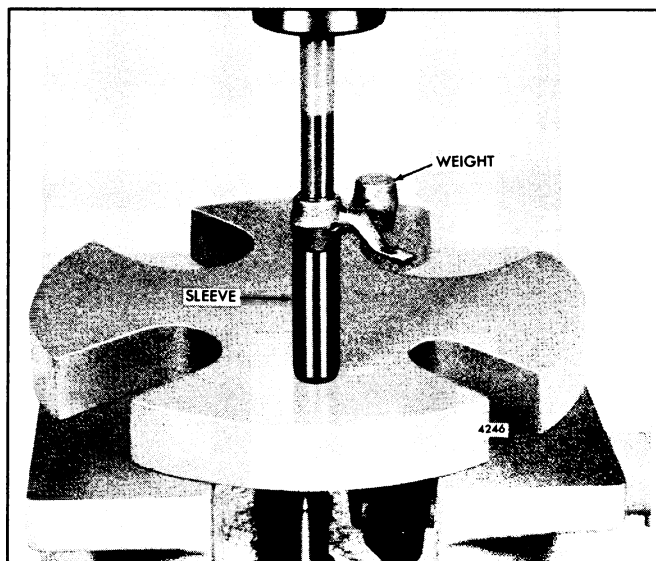

Fig. 11 - Removing or Installing Governor Weight Bearings using Tool J 8985
- c. Place the governor weight on the bed of an arbor press (Fig. 11). Press the weight bearing from the governor weight with a suitable sleeve and replacer J 8985.
- e. Turn the housing over and, with the operating shaft suitably supported, press the lower bearing assembly (36), shielded side in, over the lower end of the operating shaft.
- f. Turn the housing back upright again and, using the same method, install the upper bearing (32), numbered side out. Make sure that the lower bearing assembly is in place in the housing lower bearing bore.
- h. Place the two spacers (31) over the top of the operating shaft and install the Woodruff key (30) and snap ring (33).
- i. Apply a good quality sealant around the cup plug (37). Tap the plug into position in the weight housing operating shaft lower bearing bore.
- a. Place the governor weight on the bed of an arbor press (Fig. 11).